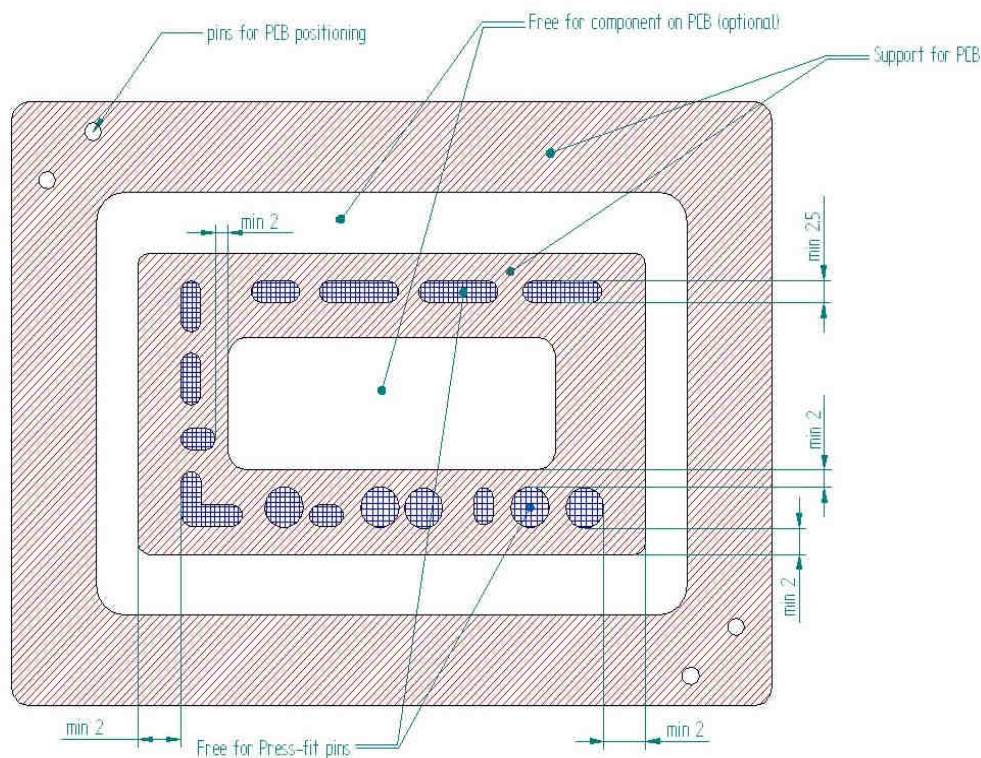

Figure 16: The recommended hole and cutout dimensions for supporting tool
- Figure 16 shows the recommended hole and cut-out dimensions for the Press-fit pins. The recommended diameter of the holes / cut-outs for the pins in the supporting tool is between 1.7 mm and 4 mm (depending on the positioning accuracy). The minimal supporting place around the pin is 2 mm. If the pins are close to each other then it is possible to make a lengthwise cut-out for more pins as well. It is necessary to position the PCB and the module as well. The depth of the cut-outs for the pins is 6 mm.